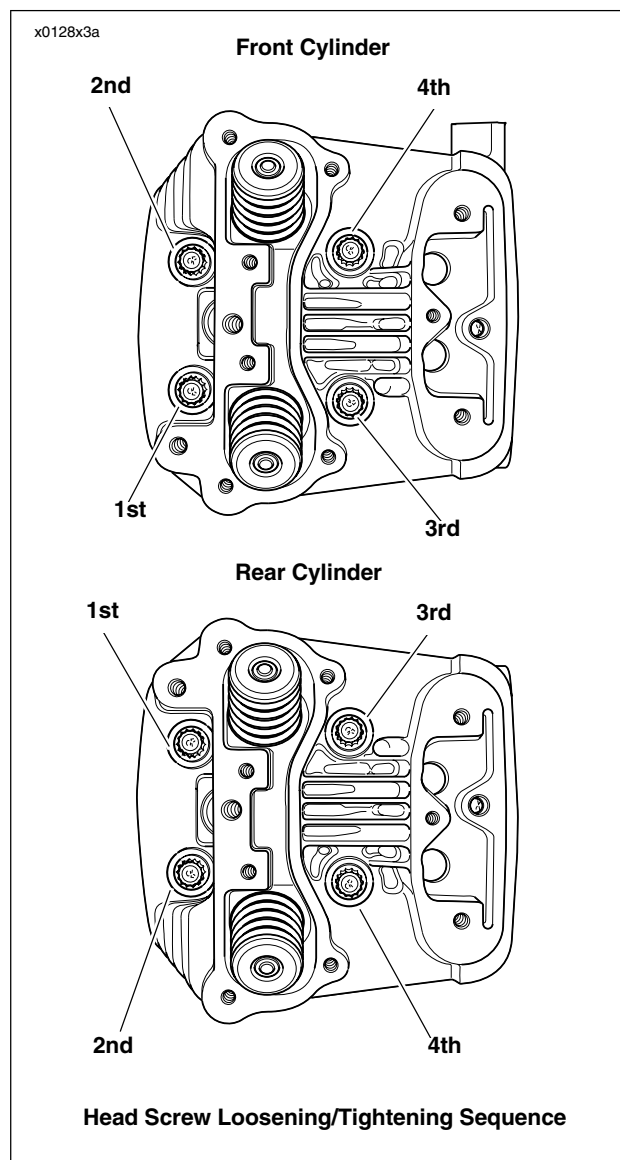

Figure 3-85. Head Screw Loosening/Tightening Sequence
7. See Figure 3-85. For each cylinder head, start with screw numbered one, as shown. In increasing numerical sequence (i.e. – 1, 2, 3 and 4):